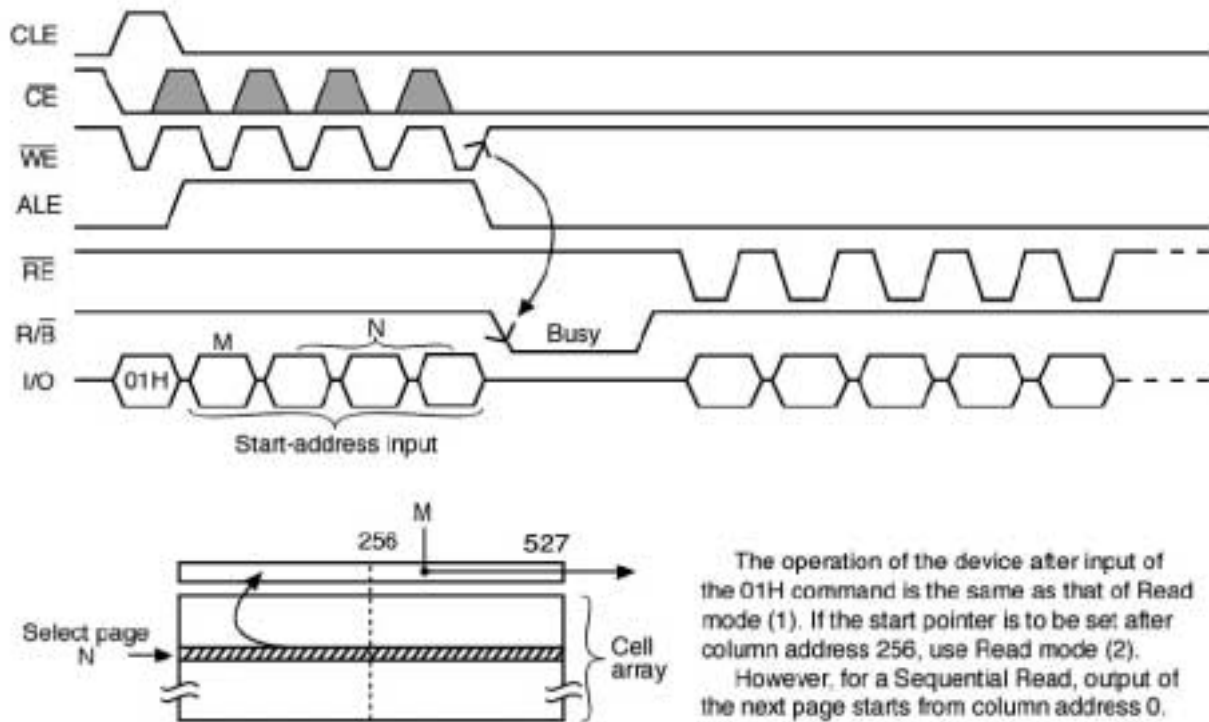

Figure 7. NAND Read Mode (2) Timing
2.6.2 Read Mode (2) 01H
Read mode (2) is set when a 01H command is issued to the Command register. The three-byte address N, gives the page to be read and the 1-byte pointer M gives the offset into the page. In read mode (2), the offset is into the second half of the page, byte 256-511. Refer to Figure 7 below for timing details and the block diagram.